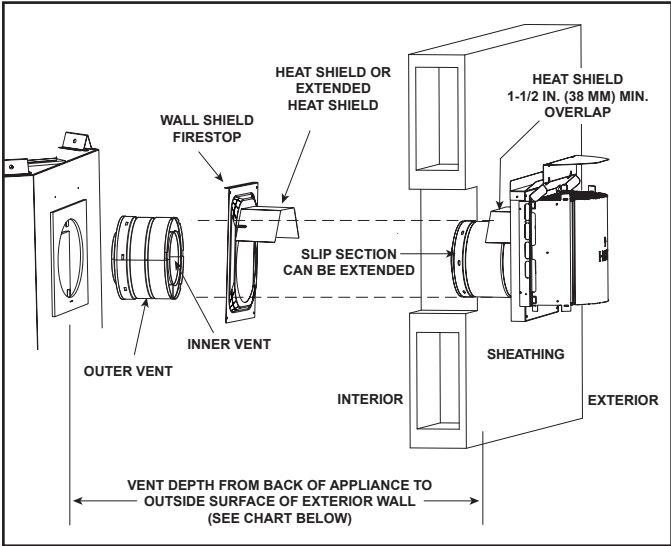

Figure 7.13 Venting Through the Wall - Generic Fireplace Shown
- **DO NOT** remove the heat shields attached to the wall shield firestop and the horizontal termination cap (shown in Figure 7.13).